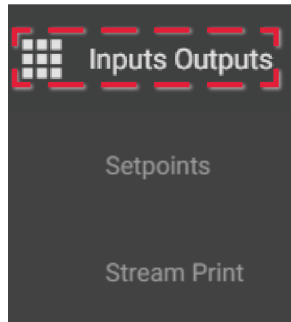

Figure 3-18. Inputs Outputs Menu
1. Select **Inputs Outputs** to expand the Input/Output Menu Figure 3-18 on page 24.